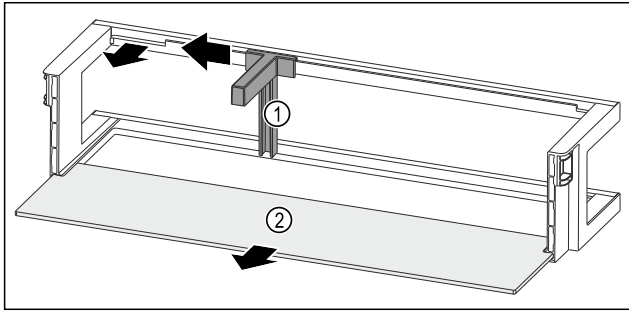

Fig. 130 Door rack with bottle holder and shelf
- ▶ Slide the bottle holder *Fig. 130 (1)* to the side as far as the recess.
- ▶ Remove the bottle holder *Fig. 130 (1)*.
- ▶ Remove the shelf *Fig. 130 (2)*.